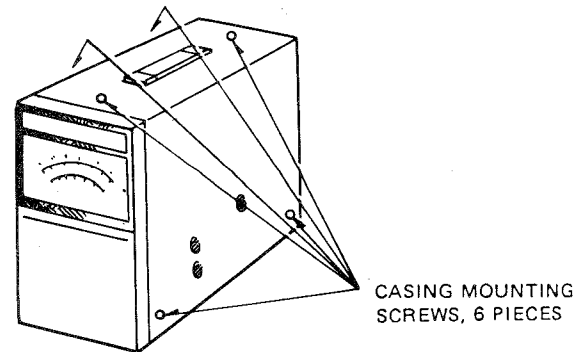

Figure 7- Casing Removal.
(1) Removing the casing (see Figure 7)